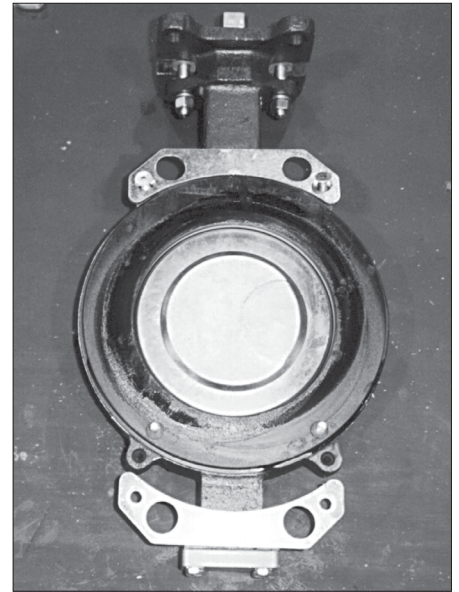

Figure 3 - Seat retainer ring and parts.
Remove the seat retainer ring (23) by removing hex socket screws (24) from the seat retaining ring for the lugged body or the retainer plate screw (34) from the locating plates (33) and/or clips (35) for the wafer body. (see Figure 3)